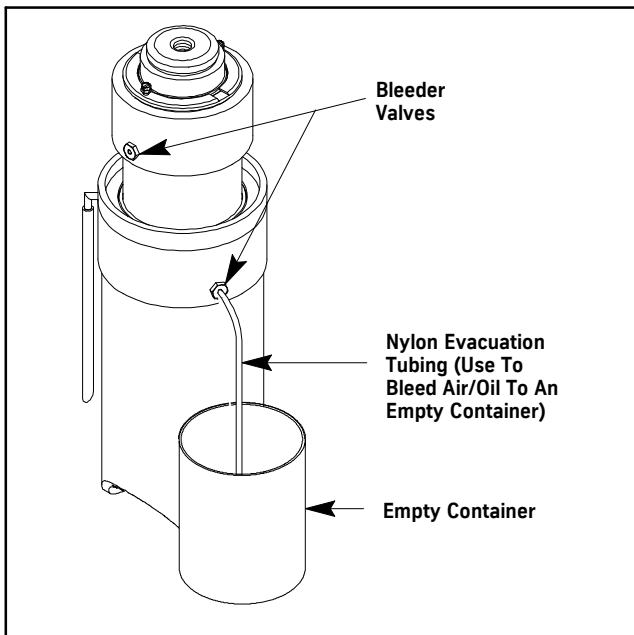

Figure 21 - Bleeding the Jack (Two Stage Only)
1. Insert one end of the $\frac{3}{16}$ " x 24" nylon evacuation tubing from the Jack Accessory Kit into one of the bottom bleeder valves and the other end into an empty container. See Figure 21.
2. With an $\frac{9}{16}$ " Wrench, slightly open the bottom bleeder valve on each jack. See Figure 21.
NOTE: The two stage telescoping jack has three bleeder valves. There are two in the jack casing. One is opposite the bottom one shown in Figure 21. Of these two, use the one that is the most accessible.